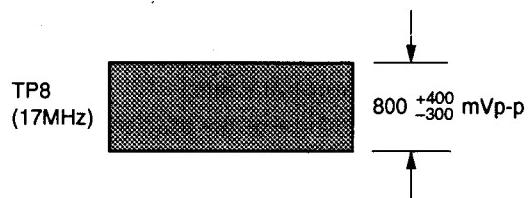

Fig. 5-2-9
- Confirm that the 17MHz Carrier level becomes 800 mVp-p as shown in the Fig. 5-2-9.